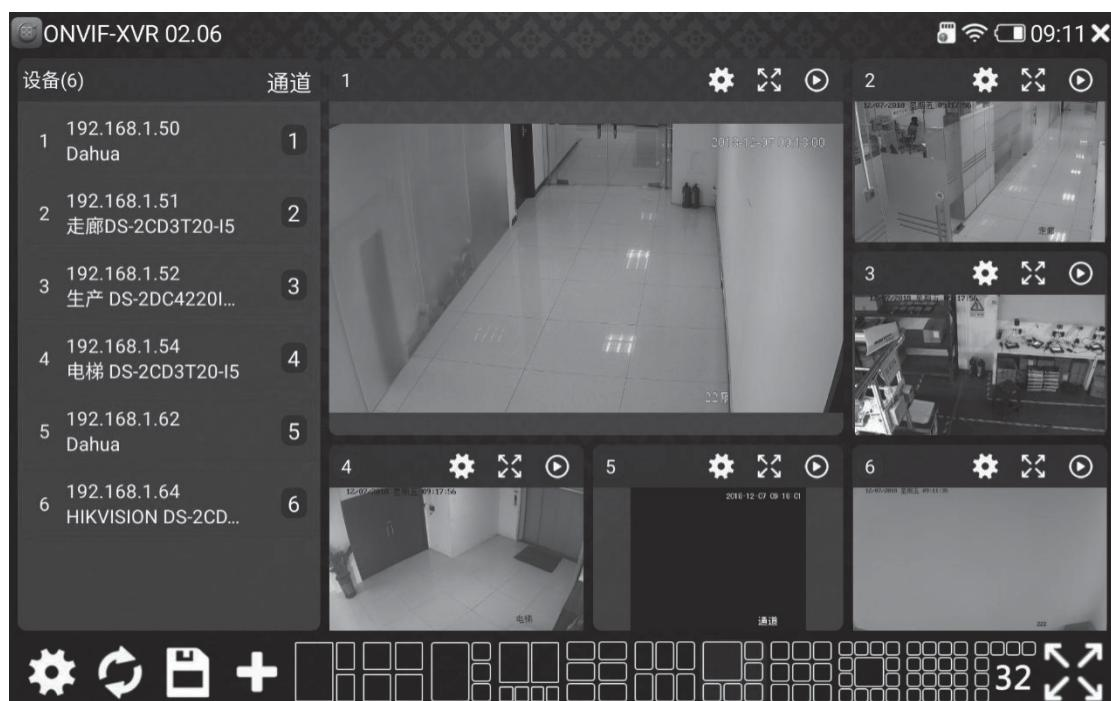

Figure 15
1) CCTV testers in the market support only single camera image viewing by now, YIAN Electronics developed multiple cameras batch preview function which support max 32-channel HIKVISION, DAHUA, etc. IP cameras, as shown in Figure15